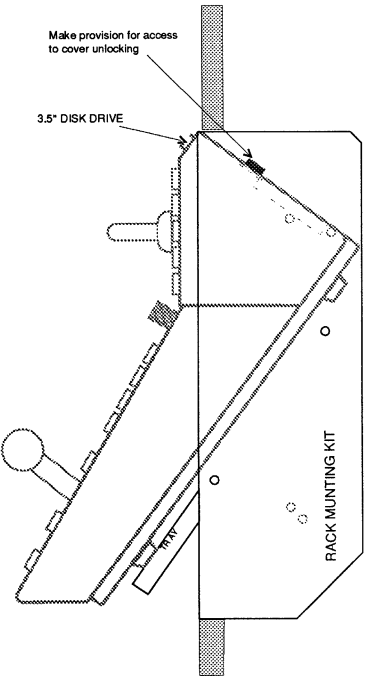

Fig. 6C: Insertion Position 3
- 1) Assemble the rack mounting kit: Attach the sides to the tray allowing for the position chosen (see fig. 6C).